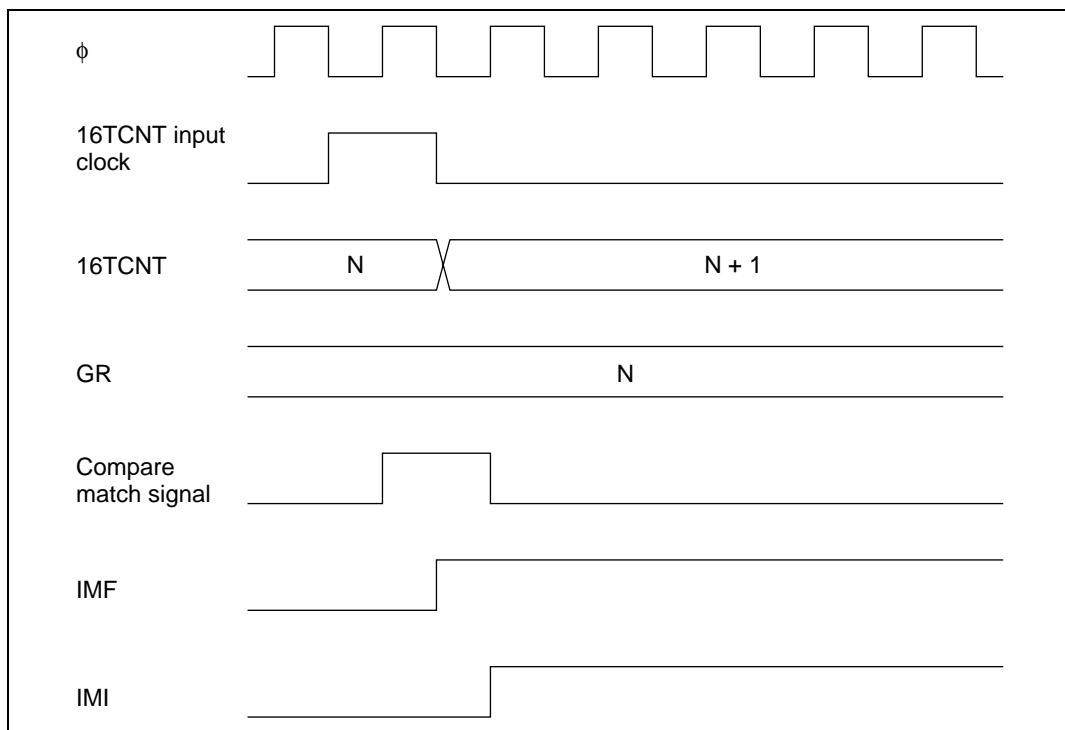

Figure 8.33 Timing of Setting of IMFA and IMFB by Compare Match
Timing of Setting of IMFA and IMFB at Compare Match: IMFA and IMFB are set to 1 by a compare match signal generated when 16TCNT matches a general register (GR). The compare match signal is generated in the last state in which the values match (when 16TCNT is updated from the matching count to the next count). Therefore, when 16TCNT matches a general register, the compare match signal is not generated until the next 16TCNT clock input. Figure 8.33 shows the timing of the setting of IMFA and IMFB.